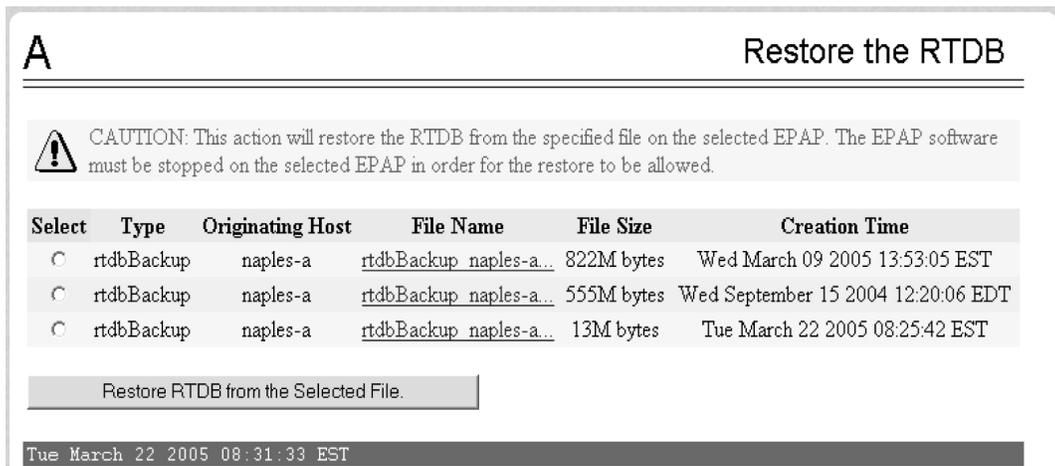

Figure 21: Restoring the RTDB
6. Select **RTDB>Maintenance>Restore RTDB** . The screen shown in *Figure 21: Restoring the RTDB* displays:
7. On the screen shown in *Figure 21: Restoring the RTDB*, select the file that was transferred in *List item*.. Click **Restore the RTDB from the Selected File**.